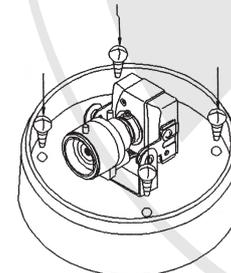

Figure 1
3. Secure the camera in the desired ceiling position with the four fixing screws (as shown in Figure 1).